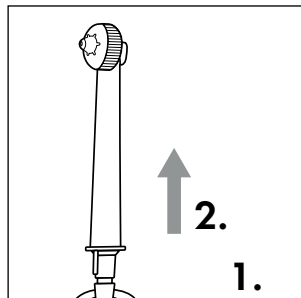

Fig. 3
- ◆ To remove the nozzle attachment **2**, press the release button **11** on the hand unit **5** and then pull the nozzle attachment **2** out of the hand unit **5** (see Fig. 3).